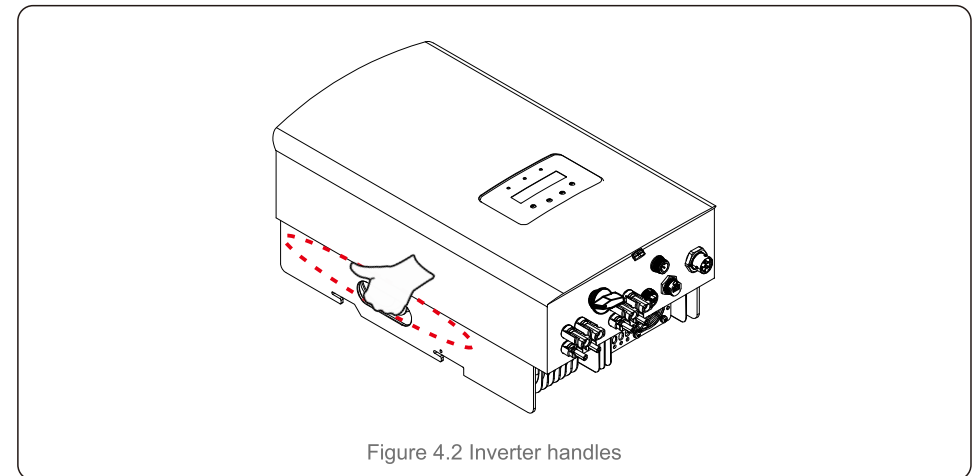

Figure 4.2 Inverter handles
2. Open the carton, then handle both sides of inverter through the area denoted dotted line. ( see figure 4.2).